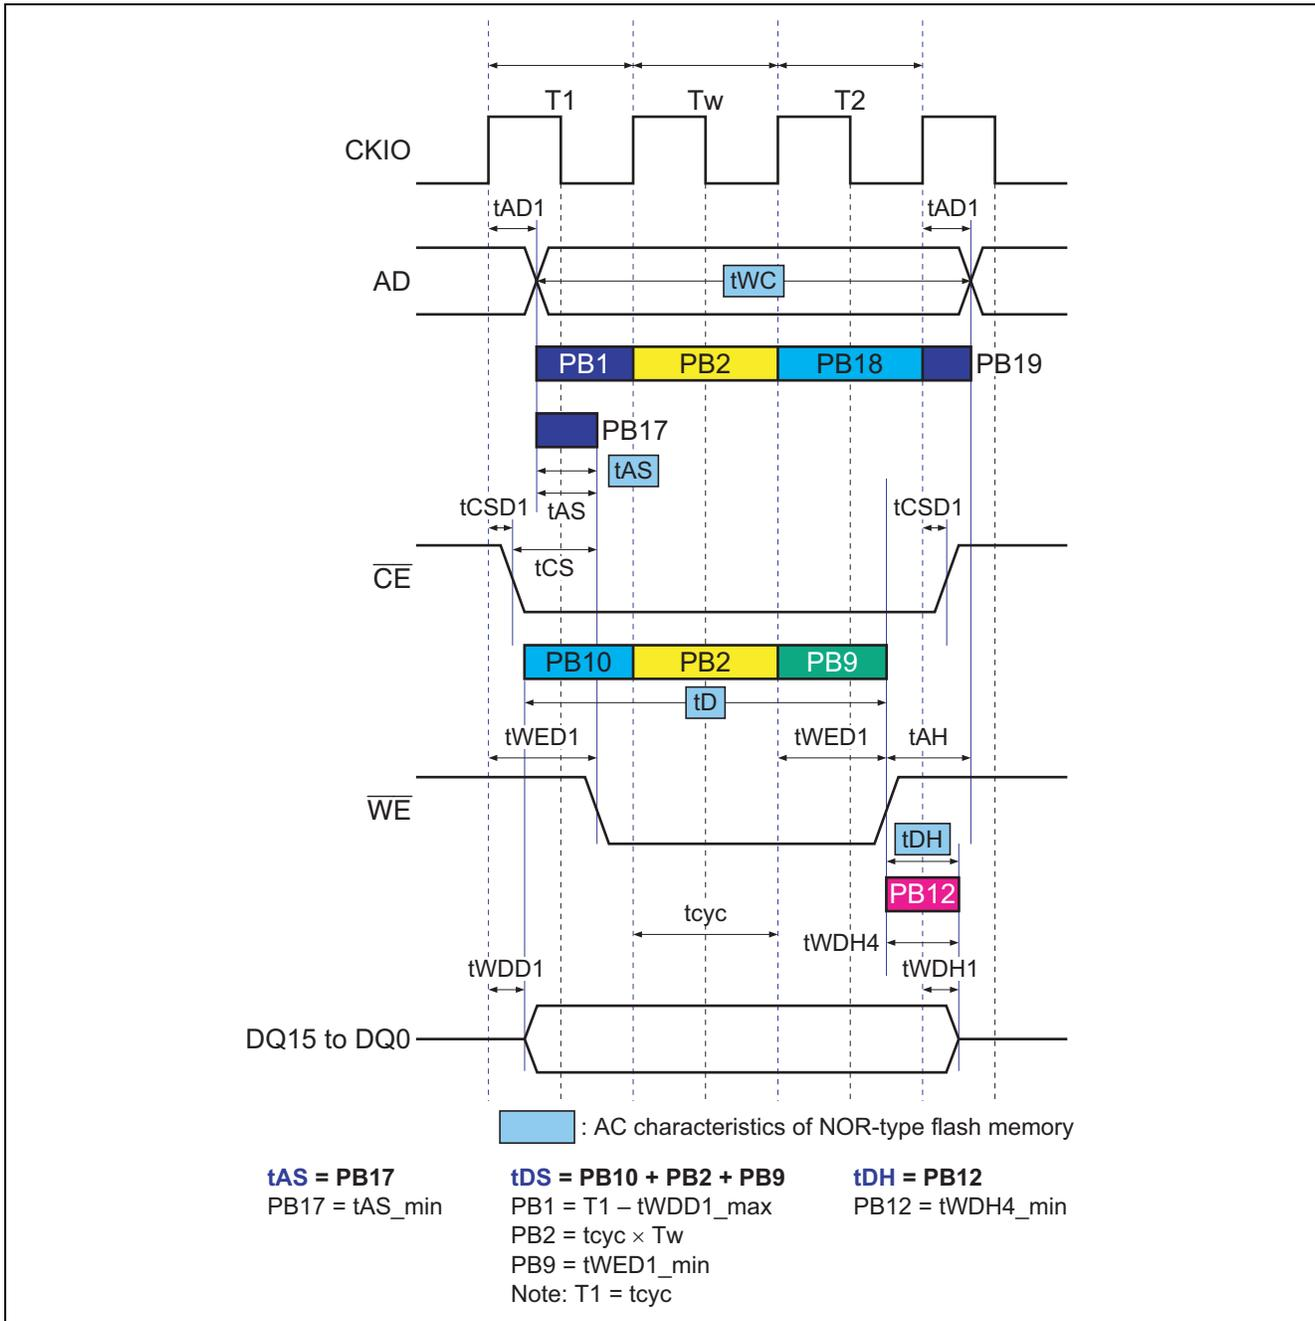

Figure 13 Write Timing of NOR Flash Memory When W = 1 (4)
- t_{WC} of NOR flash memory (write cycle time)..... (figure 13)
- tAS of NOR flash memory (address setup time) (figure 13)
- tDS of NOR flash memory (data setup time) (figure 13)
- tDH of NOR flash memory (data hold time) (figure 13)
Figure 13 shows write timing for NOR flash memory (4).